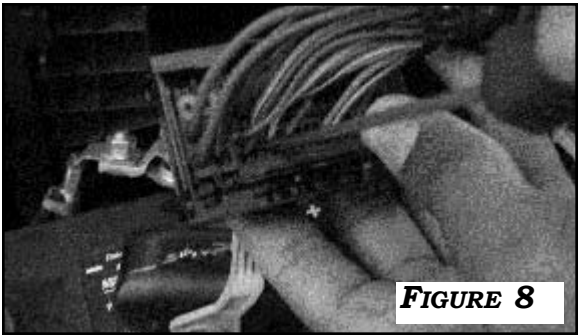

FIGURE 8
9. USE PRECISION TOOL TO BREAK PLASTIC INSERT IN OPENING OF **PIN 13, 26 AND 27** OF CONNECTOR (**FIGURE 8**). THEN PUSH OUT REMAINS ON REVERSE SIDE AS SHOWN IN **FIGURES 9-10.**